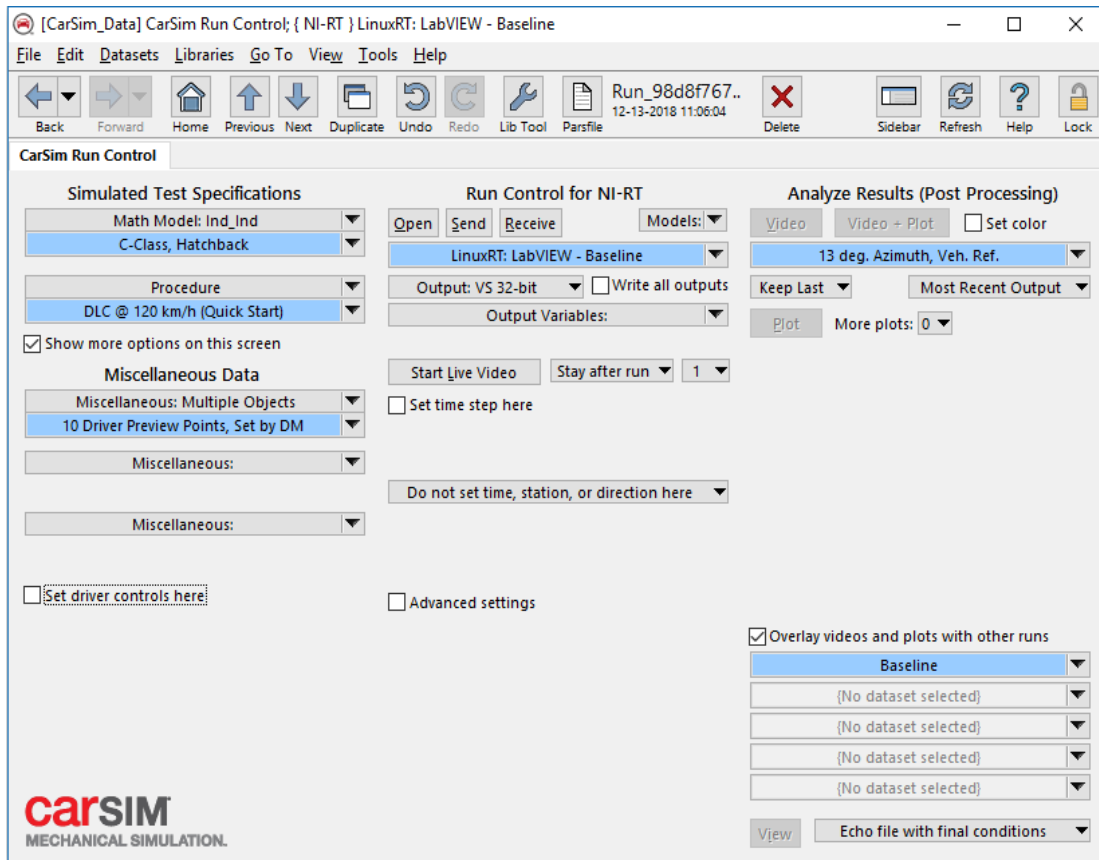

Figure 11. LinuxRT LabVIEW Baseline Example.
1. From the **Run Control** screen, use the **Dataset** menu and select the **RT: NI RT→LinuxRT: LabVIEW - Baseline** example (Figure 11).